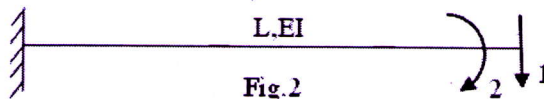

Fig.2
- e) Derive stiffness matrix using physical approach for the coordinates marked in Fig.2. (3)